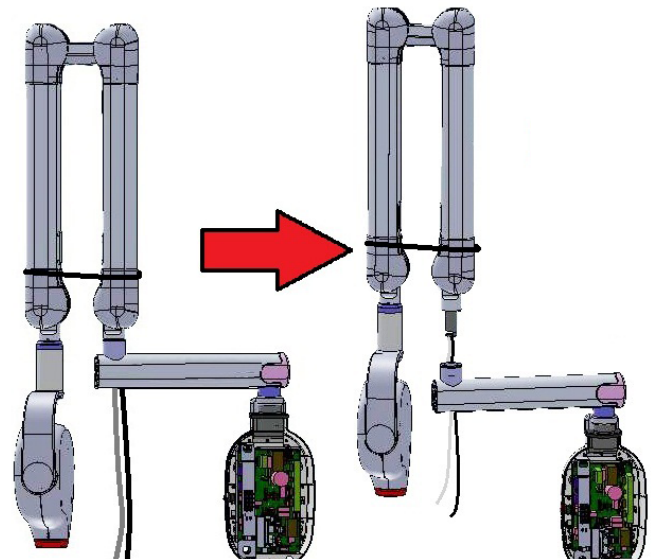

Figure 54
- Hold the scissor-arm firmly with both hands and slowly lift it simultaneously pulling the cables out of the straight arm carefully as shown in Figure 54 . Keep the Scissor-arm separate on a cushioned surface.